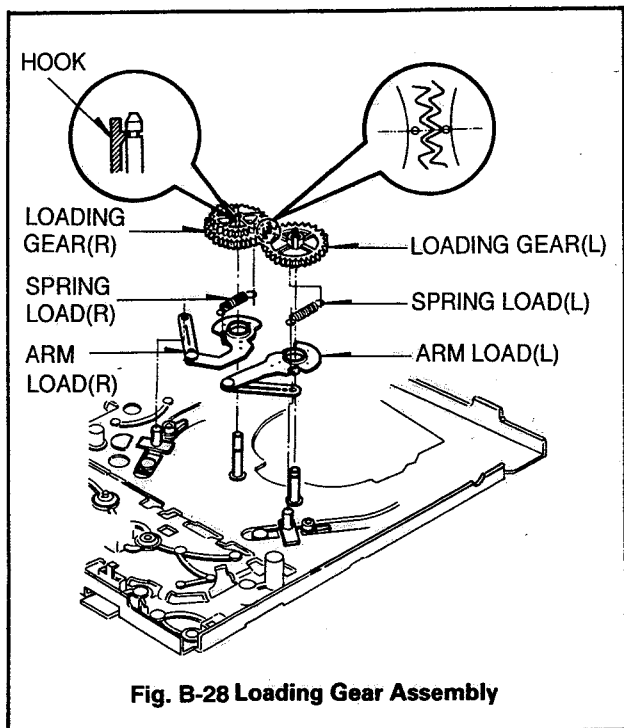

Fig. B-28 Loading Gear Assembly
- ① Use a Hexagonal wrench to remove set screw.
- ② Take notice that the P2 and P3 Slant Assembly should not be changed from their original place.
28. Loading Gear Assembly(L),(R) (Fig. B-28)